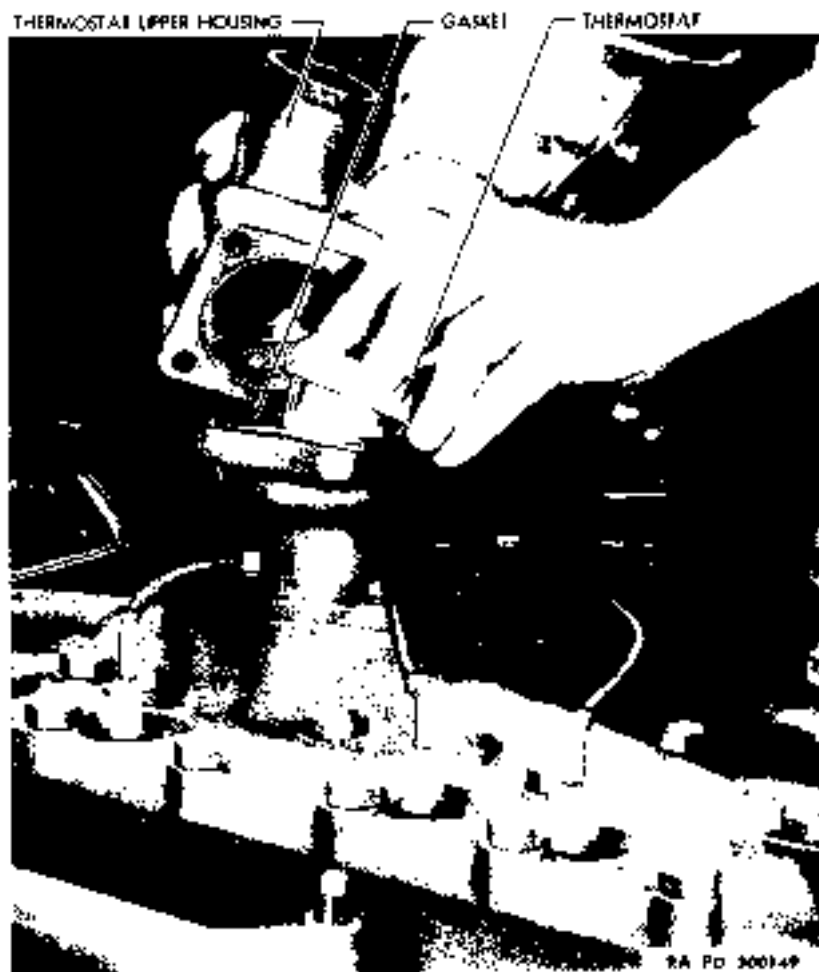

Figure 58—Removing Thermostat
b. **Remove Thermostat.** Drain approximately four quarts coolant from cooling system; (fig. 50) Disconnect engine water outlet hose at thermostat housing. Disconnect engine water bypass tube hose at thermostat housing. Remove four cap screws from thermostat upper housing. Swing air cleaner support brace to one side. Lift thermostat out of housing. Note relative position of thermostat in housing, to avoid installing upside down (fig. 58).
d. **Install Thermostat.** Place thermostat in housing in proper position (fig. 58) Place upper housing in position on cylinder head water outlet and install and tighten four cap screws. Secure air cleaner brace in air cleaner bowl. Connect outlet hose and engine bypass tube hose to thermostat housing. Tighten hose clamps securely. Refill system with water or antifreeze compound; start engine and inspect all connections for leaks.